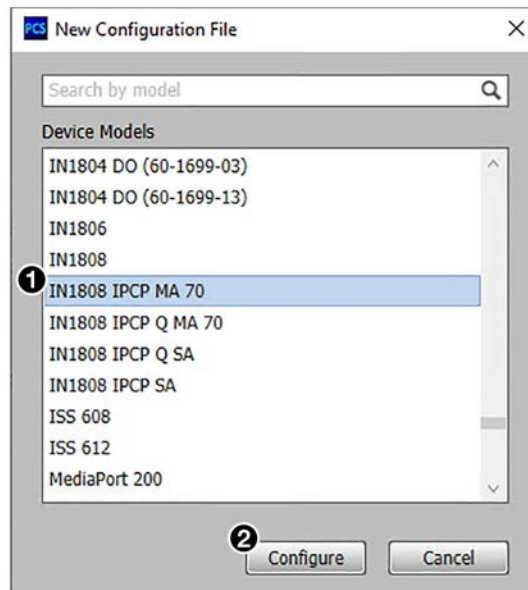

Figure 39. New Configuration File Dialog Box
2. Select the desired device model from the **Device Models** list (see figure 39, ①). In this example, **IN1808** (standard model) was selected.
3. Click the **Configure** button (②). A new offline device configuration tab opens.